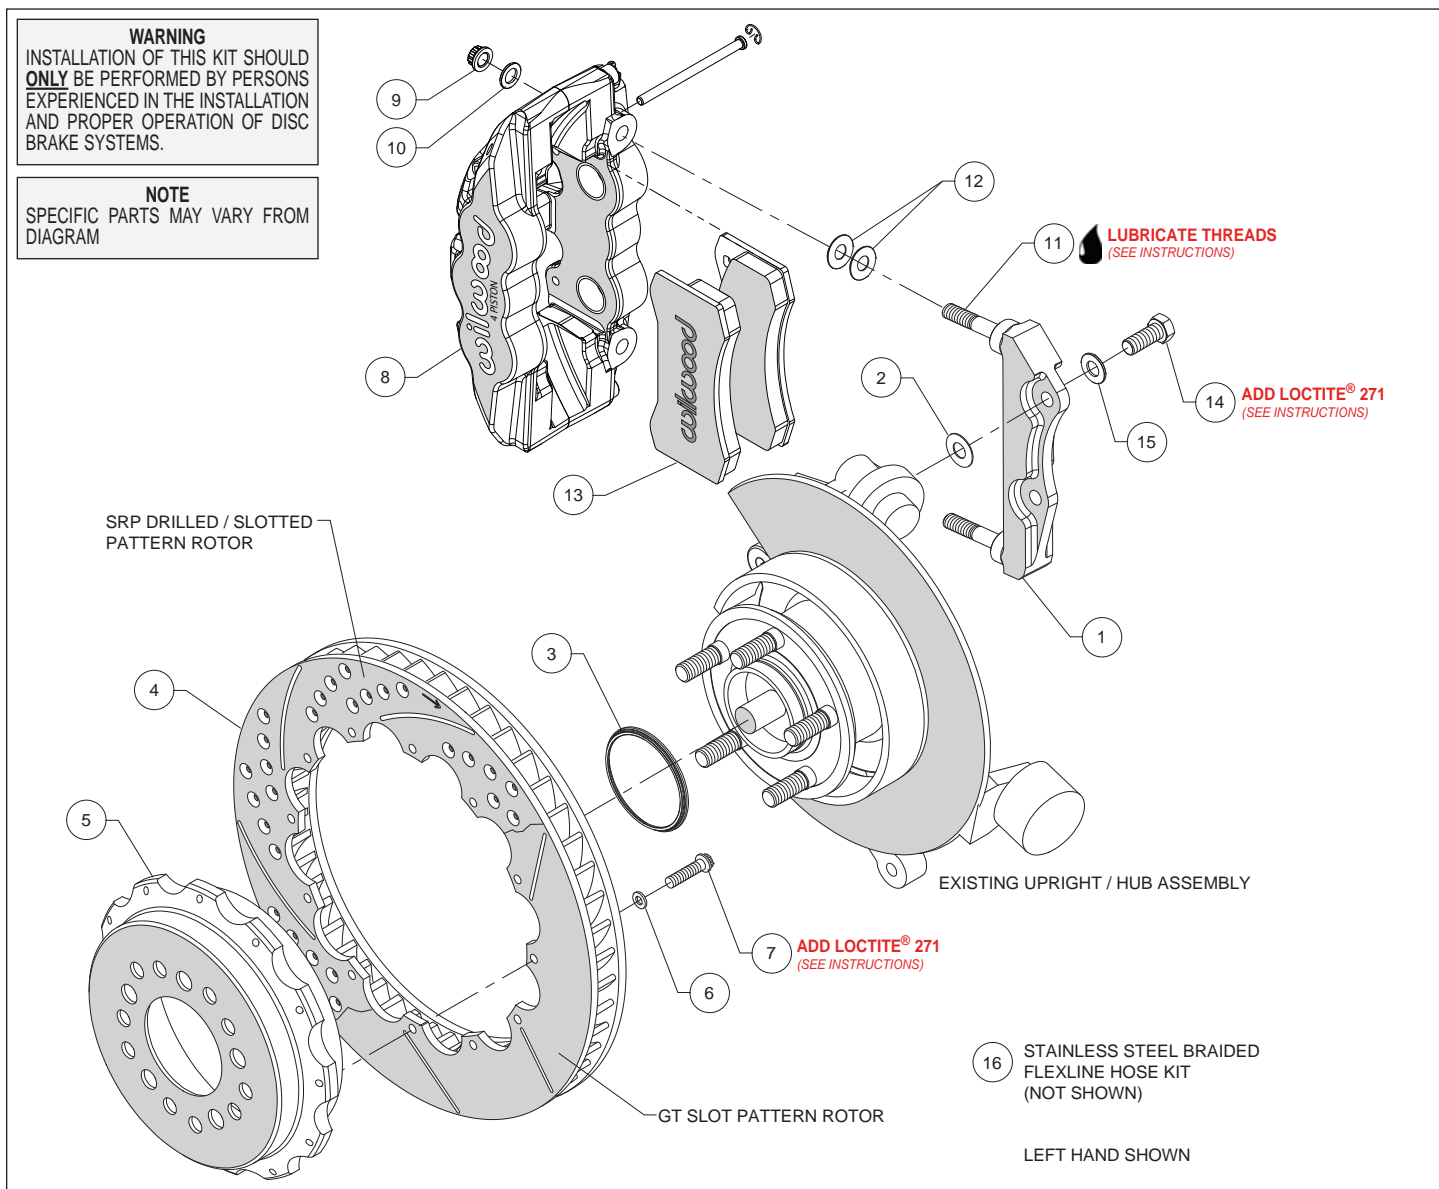
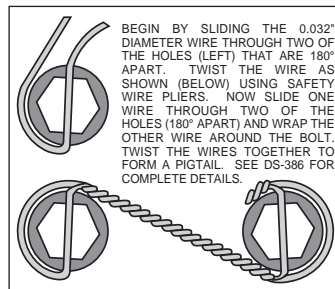

Figure 1. Typical Installation Configuration
Figure 3. Safety Wire Diagram
**Assembly Instructions** (numbers in parenthesis refer to the parts list and Figure 1 on the preceding pages):
- The caliper mount bracket (1) should initially be installed with clean, dry threads on the mounting bolts. Orient the bracket as shown in Figure 1 and Photo 1, and install using bolts (14) and washers (15), Figure 1. Initially place one .033" thick shim (2) on each bolt between the bracket and upright, Figure 1. Temporarily tighten the mounting bolts. **NOTE:** *The bracket must fit squarely against the mount bosses on the upright.* Inspect for interference from casting irregularities, machining ridges, burrs, etc. Later, after the caliper alignment has been checked, the mount bolts will be secured using red *Loctite*® 271.
- Orient the rotor (4) and the hat (5) as shown in Figure 1 and Photo 2. Attach rotor to hat using bolts (7) and washers (6). Using an alternating sequence, apply red *Loctite*® 271 to the threads and torque bolts to 155 **in-lb**. For an added measure of security, the bolts may be safety wired using standard 0.032 inch diameter stainless steel safety wire as shown in Figure 3. Please refer to Wilwood's data sheet DS-386 (available at [www.wilwood.com/Pdf/DataSheets/ds386.pdf](http://www.wilwood.com/Pdf/DataSheets/ds386.pdf)) for complete safety wire installation instructions.
- Slide the rotor registration adapter (3) onto the axle register on the axle hub with the smaller O.D. facing outward, Photo 3. Slide the hat/rotor assembly onto the axle hub. **NOTE:** *The hat must fit flush against the axle hub flange or excessive rotor run out may result.* Install three lug nuts (finger tight) to keep the hat/rotor assembly in place while continuing with the installation.
- Lubricate the caliper mounting studs (11) with lightweight oil. Initially place two .030" thick shims (12) on each stud between the caliper and the bracket, as shown in Figure 1 and Photo 4. Mount the caliper (8) onto the bracket (1) using lock nuts (9) and washers (10), Figure 1. Temporarily tighten the lock nuts and view the rotor through the top opening of the caliper. The rotor should be centered in the caliper, Photo 5. If not, adjust by adding or subtracting shims (2) between the bracket and the upright. Always use the same amount of shims on each of the two mounting bolts. Once the caliper alignment is correct, remove the bracket mounting bolts one at a time, apply red *Loctite*® 271 to the threads, and torque to 60 ft-lb.
- Remove the two pad retaining pins from the caliper (8) by carefully popping out the pin retaining clips and sliding out the pins. Insert the brake pads (13) into the caliper from the bottom, Figure 1 and Photo 6. With the friction material facing the rotor, secure the brake pads in place with the pad retaining pins and clips, Photo 7. Reinstall the caliper onto the caliper mounting bracket and temporarily tighten the lock nuts. Check that the top of the brake pad is flush with the outside diameter of the rotor, Photo 8. If not, adjust by adding or subtracting shims (12) between the caliper and the bracket. After the caliper pad height is set, torque the caliper lock nuts (12) to 47 ft-lb.